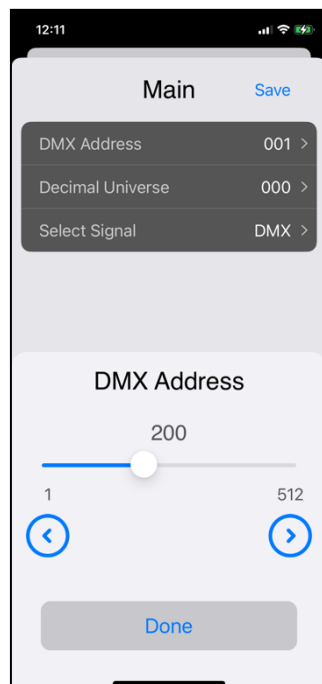

Figure 5
- 2) Change the device parameters such DMX address or User Mode or others (Figure 5, 6):